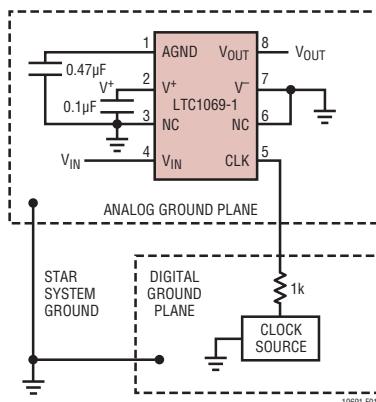

Figure 1. Connections for Single Supply Operation
For single supply operation Pin 1 should be bypassed to the analog ground plane with a $0.47\mu\text{F}$ or larger capacitor. An internal resistive divider biases Pin 1 to $1/2$ the total power supply. Pin 1 should be buffered if used to bias other ICs. Figure 1 shows the connections for single supply operation.
CLK (Pin 5): Clock Input Pin. Any TTL or CMOS clock source with a square wave output and 50% duty cycle ($\pm 10\%$) is an adequate clock source for the device. The power supply for the clock source should not necessarily be the filter's power supply. The analog ground of the filter should be connected to clock's ground at a single point only. Table 1 shows the clock's low and high level threshold value for a dual or a single supply operation. A pulse generator can be used as a clock source provided the high level ON time is greater than $0.42\mu\text{s}$ ($V_S = \pm 5\text{V}$). Sine waves less than 100kHz are not recommended for clock signal because excessive slow clock rise or fall times generate internal clock jitter. The maximum clock rise or fall is $1\mu\text{s}$. The clock signal should be routed from the right side of the IC package to avoid coupling into any input or output analog signal path. A $1\text{k}\Omega$ resistor between the clock source and the clock input pin (5) will slow down the rise and fall times of the clock to further reduce charge coupling, Figure 1.